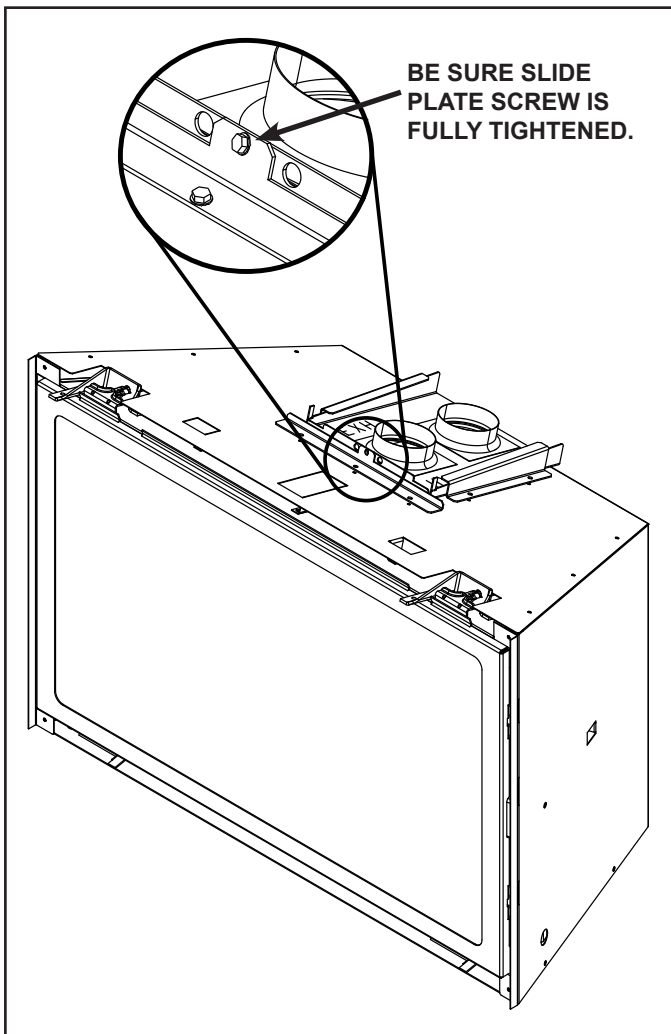

Figure 3.5 Collar slide plate Screw Detail
- Verify collar slide plate screw is attached see Figure 3.5.